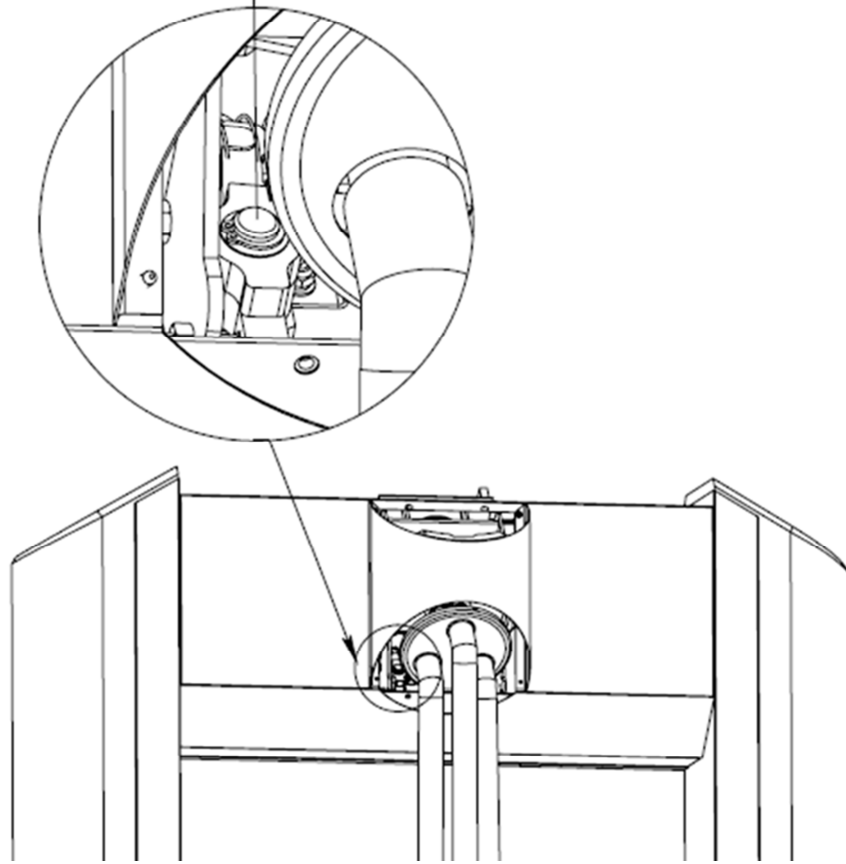

Fig. 9
5.1. The rotation axis of the stopper unit (Fig. 9).